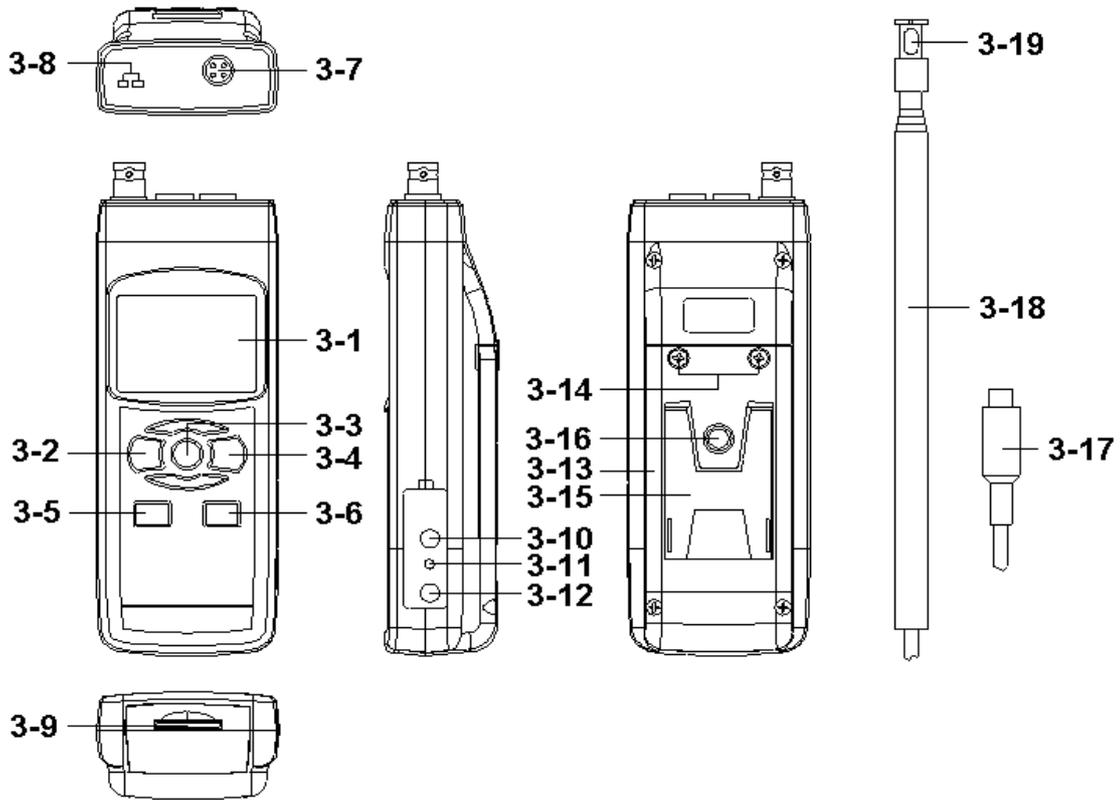

Fig. 1
(3-2, Fig. 1) momentarily.
** Pressing the " Power Button " (3-2, Fig. 1)
Pressing the " Function Button " (3-3, Fig. 1)
just release the " Function Button " (3-3, Fig. 1), the
- 3) Plug the " Probe Plug " (3-17, Fig. 1) into the " Probe Input Socket " (3-7, Fig. 1).
Power on the meter by pressing the " Power Button " (3-2, Fig. 1) once,
- 4) Hold the " Telescope Probe " (3-18, Fig. 1) by hand and let the " Sensing Head " (3-19, Fig. 1) face against the measuring air flow source, then the Display (3-1, Fig. 1) will show air velocity directly. At the same time, the lower Display will show the air temperature value.
- 2) Plug the Thermocouple Temp. Probe (Type K Temp. probe pr Type J Temp. probe, optional) into " Type K/J Probe Input Socket " (3-8, Fig. 1)
During the measurement, press the " Hold Button " (3-3, Fig. 1) once will hold the measured value & the LCD will display a " HOLD " symbol.
1) The data record function records the maximum and minimum readings. Press the " REC Button " (3-4, Fig. 1) once to start the Data Record function and there will be a " REC " symbol on the display.
a) Press the " REC Button " (3-4, Fig. 1) once, the " REC MAX " symbol along with the maximum value will appear on the display.
If intend to delete the maximum value, just press the " Hold Button " (3-3, Fig. 1) once, then the display will show the " REC " symbol only & execute the memory function continuously.
b) Press the " REC Button " (3-4, Fig. 1) again, the " REC MIN " symbol along with the minimum value will appear on the display.
If intend to delete the minimum value, just press the " Hold Button " (3-3, Fig. 1) once, then the display will show the " REC " symbol only & execute the memory function continuously.
After power ON, the " LCD Backlight " will light automatically. During the measurement, press the " Backlight Button " (3-2, Fig. 1) once will turn OFF the " LCD Backlight " .
insert the SD card into the " SD card socket " (3-9, Fig. 1).